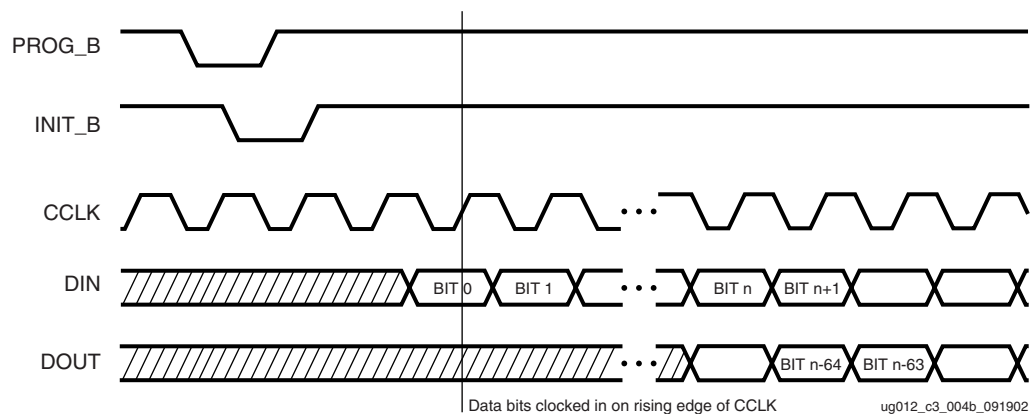

Figure 4-11: Serial Configuration Cloning Sequence
1. For Slave configurations, a free running CCLK can be used, as shown in Figure 4-11.